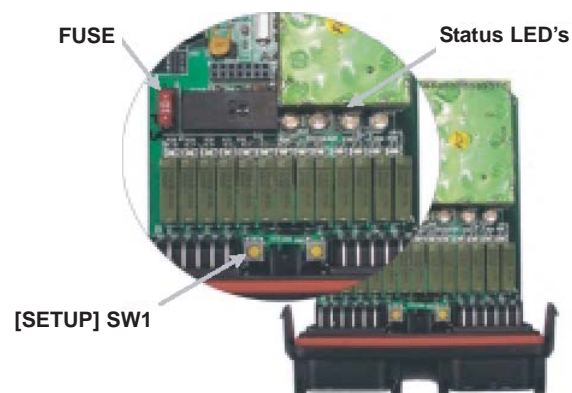

Figure 1
The Transmitter has its ID Code factory programmed. Its matching Control Module needs to have this same code programmed into it. To do this, the Control Module needs to have its cover removed - refer to Figure 1. Follow the procedure below to program the Control Module ID Code to match its corresponding Transmitter.
4. Press and hold the [SETUP] button (see Figure 1) on the Control Module for 5 seconds. The STATUS LED on the Control Module will flash once per second while depressed and then begin flashing rapidly indicating that the Control Module is ready to receive “Configuration Data” from the Transmitter. Release the [SETUP] button after the STATUS LED begins flashing rapidly.
In order to program the Control Module or replace the FUSE (use 10A MINI®), the circuit board has to be removed from the housing of the Control Module. Releasing the two side tabs on the housing and sliding the connector block and circuit board out of the housing until the four STATUS LED's are visible and the [SETUP] SW1 button is accessible. See Figure 1.